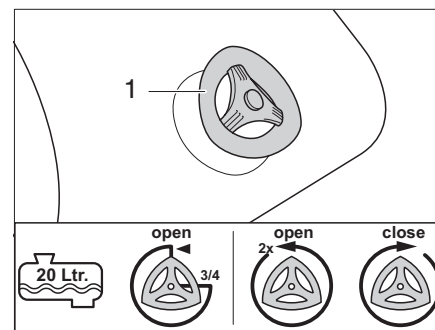

Fig. 178 Drain cock
- 1/2 full or less: Turn the drain cock (Fig. 178,1) 3/4 of a rotation anti-clockwise.
- 3/4 full and more: Turn the drain cock (Fig. 178,1) 2 rotations anti-clockwise.
- Close the drain cock (Fig. 178,1) clockwise.